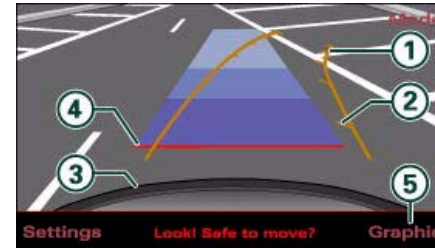
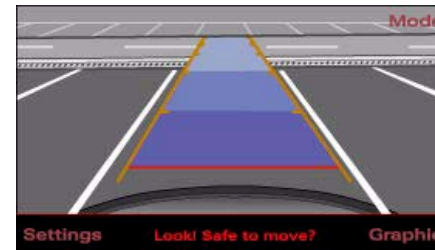

Fig. 192 MMI display:
Fig. 193 MMI display:
- Press the control button for **Graphic** ⇒ page 174, fig. 192  to show the graphic display on the screen.
- Turn the steering wheel until the orange orientation lines ① are pointing towards the parking space ⇒ fig. 192. You can estimate the distance to an obstacle by referring to the markings ②. Each marking is equivalent to 1 metre.
- Reverse into the space and adapt the steering angle to the parking space, using the orange lines to assist you ⇒ ①. ③ indicates the rear bumper. You should stop reversing, at the latest, when the red orientation line ④ is bordering on an object ⇒ ⚠!
- Align your vehicle according to the blue area marking ⇒ fig. 193. The blue marking is an extension of the vehicle outline and reaches about five metres to the rear of the vehicle. The shade of blue changes at a distance of approx. 1 m, 2 m and 5 m to the vehicle.